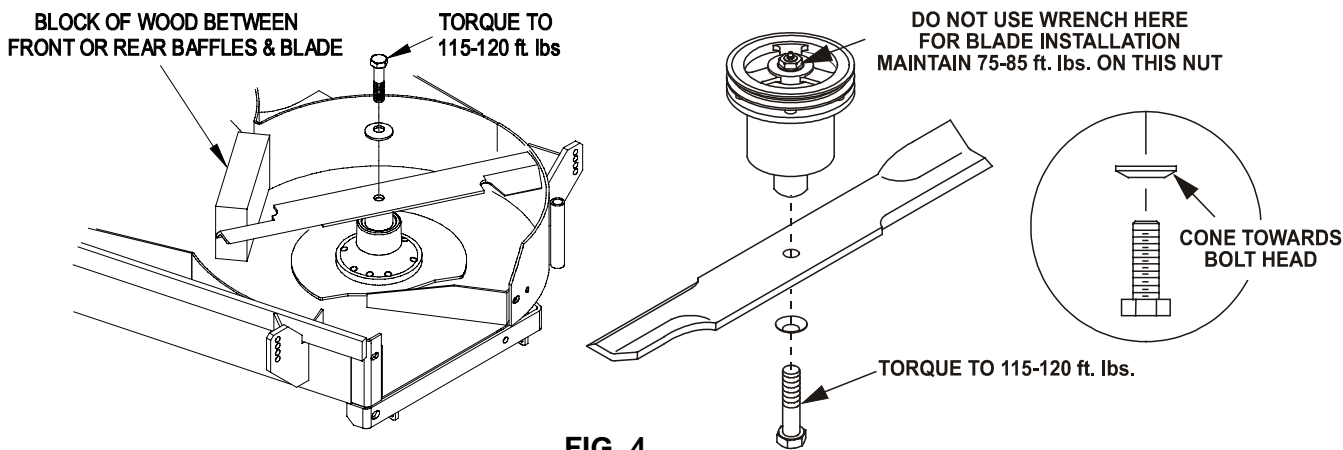

FIG. 4
- d) Re-install the blades (if they were removed) by placing a block of wood between the front or rear baffles and the blade then torquing the blade bolts to 115-120 ft. lbs. Be sure the spring disc washer cone is installed toward the bolt head. (See Figure 4).